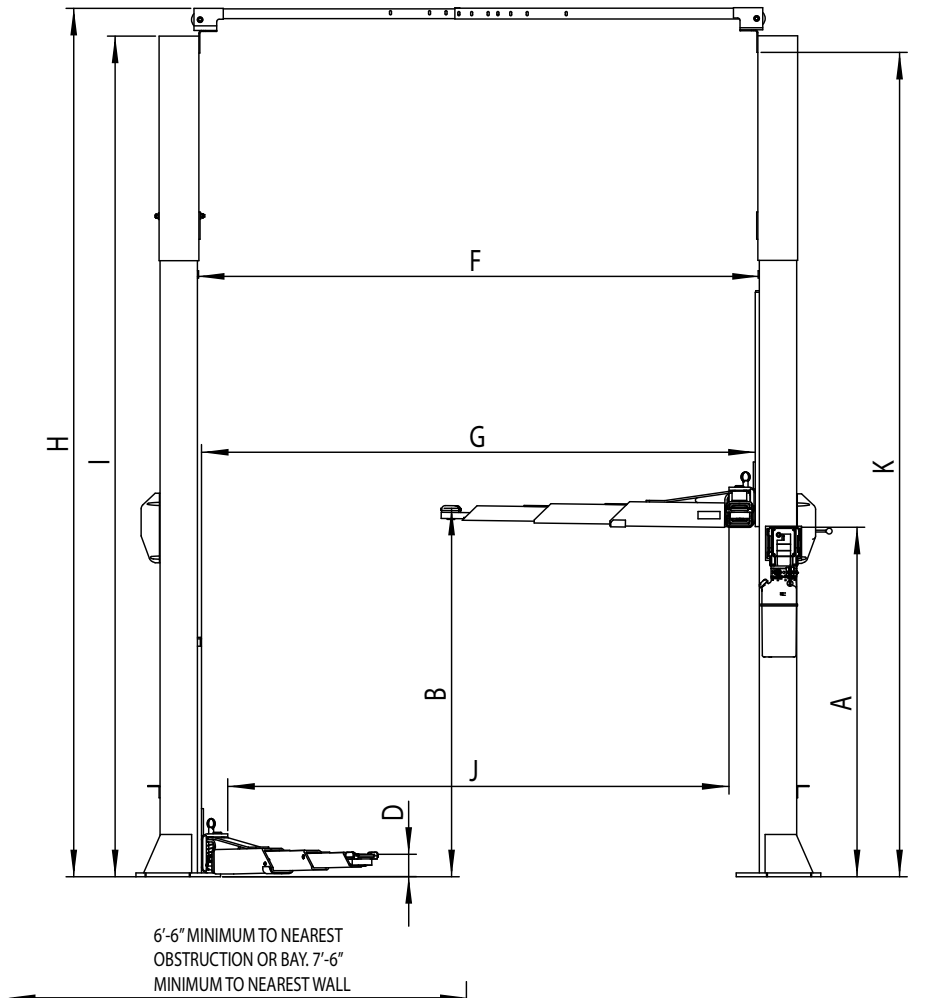
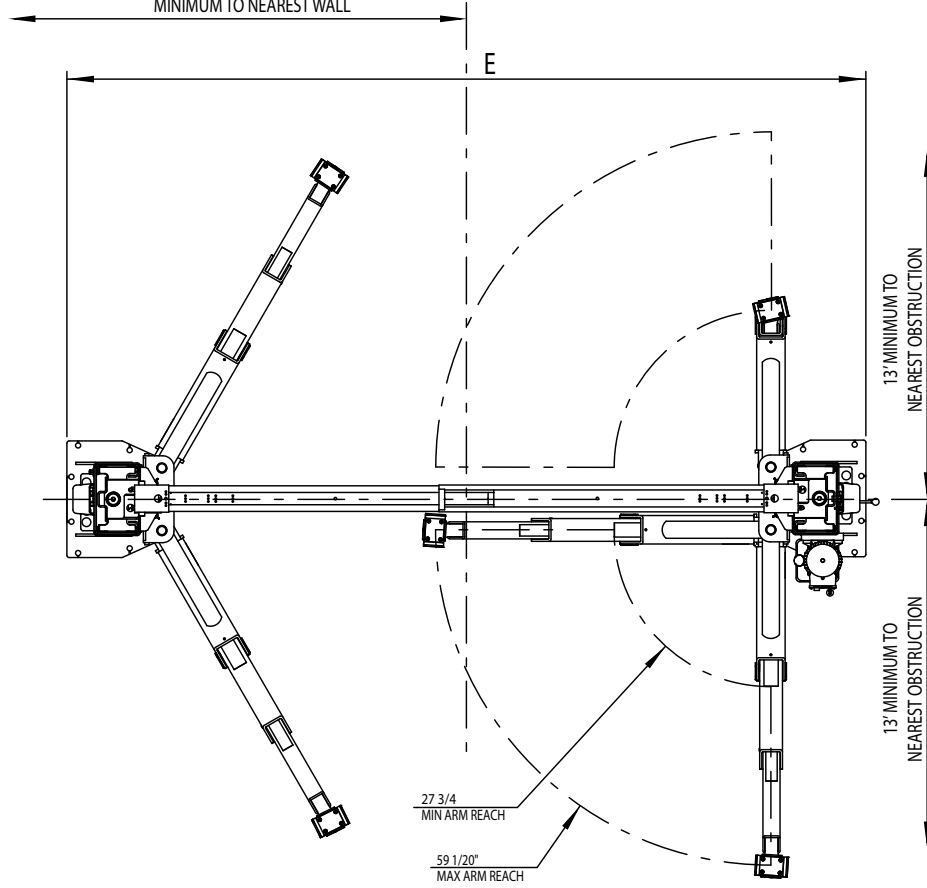

Fig. 1c
Fig. 1d
1. Lift Location: Use architects plan when available to locate lift. Fig. 1a, Fig. 1b, Fig. 1c & Fig. 1d shows dimensions of a typical bay layout.
4. Lift Setting: Position columns in bay using dimensions shown in Fig. 1a, Fig. 1b, Fig. 1c & Fig. 1d. Place column with power unit mounting bracket on vehicle passenger side of lift. Both column base plate backs must be square on center line of lift. Notches are cut into each base plate to indicate center line of lift. Use appropriate equipment to raise carriage to first latch position. Be sure locking latch is securely engaged.